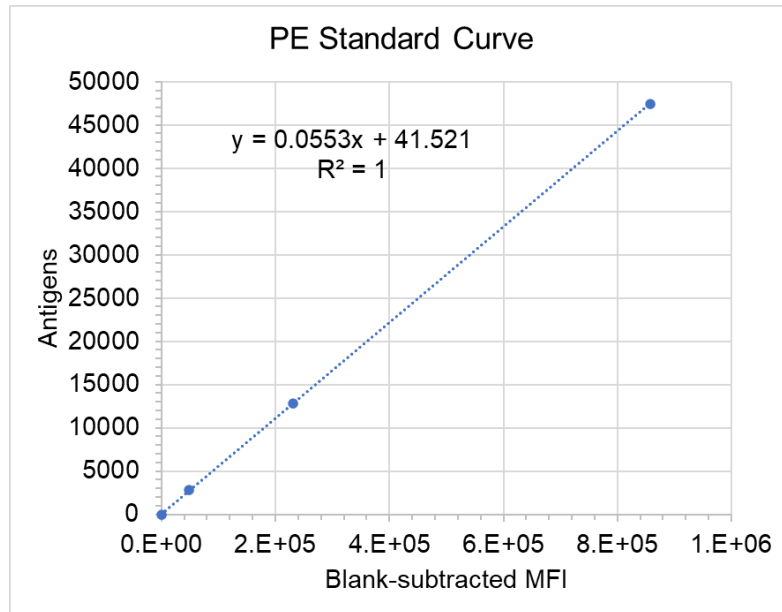

Figure 1. Standard curve of antigens per cell versus blank-subtracted MFI.
i. Properly gate the population for CTx TruCytes™ as in Figure 1 below in a plot of SSC-A versus FSC-A.